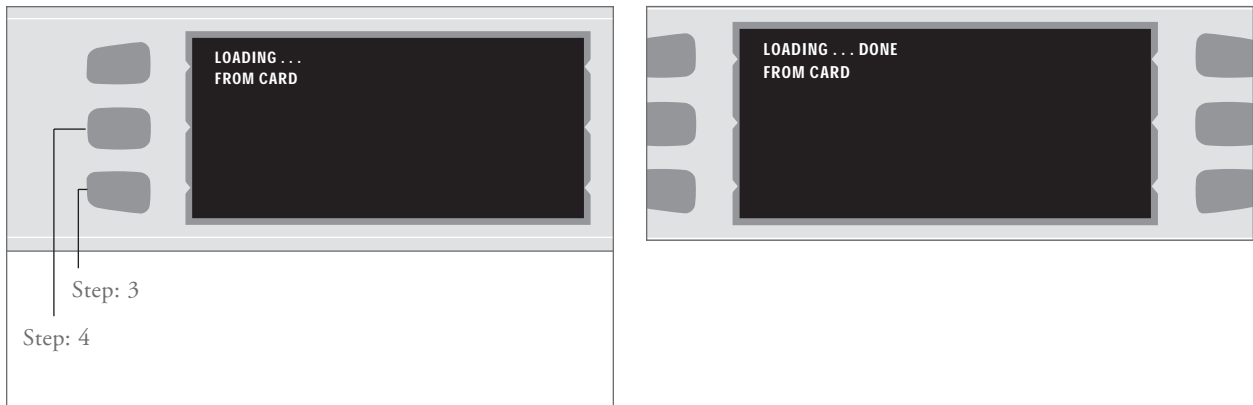

FIGURE 27: Loading from Smart Card
4. Press the middle-left soft key to “Load Menu from Card” (Figure 27).